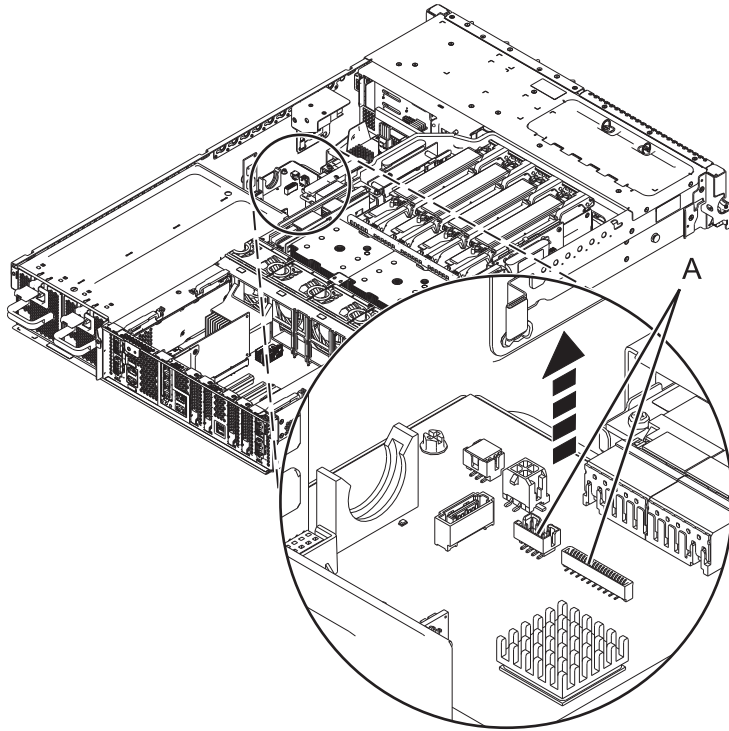

Figure 1. Disconnecting the operator panel cable
- a. Disconnect the operator panel cable (A). See Figure 1 on page 7.